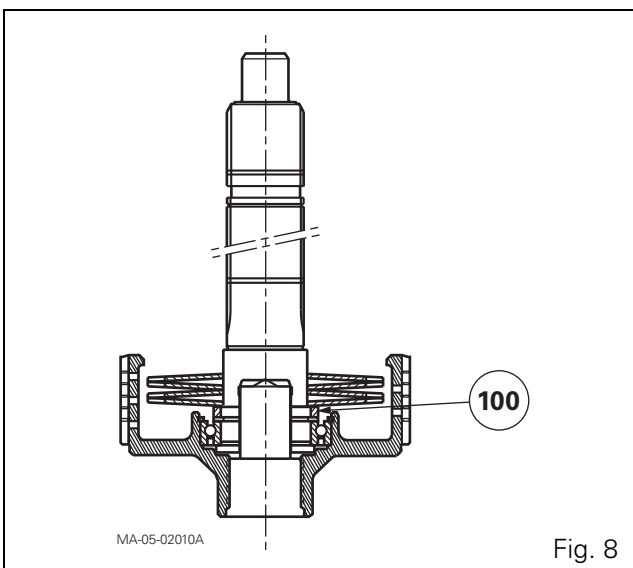

Fig. 8
42. Using a suitable fixture, force fit the bearing (22) on the shaft (19), with the sealed side directed towards the reverse clutch. Fit the circlip (21).
43. Fit the assembly (shaft, bearing, circlip) in the hub (27). Fit the snap ring (23).
44. Refit the ring (100) and the Belleville washers as shown in Fig. 8.
45. Assemble the unit (18) fitted with the piston (28) on the shaft (19).
46. Compress the Belleville washers using the same fixture as in step 28. Position the ring (5), aligning two of the flat sections with those of the unit (18). Replace the rear snap ring (9) and correctly position it in the bottom of the groove.
48. Check that the rings (15) turn freely in their grooves. Position the rings, lightly smeared with miscible grease, making sure that they do not protrude beyond the rim of the unit (18).